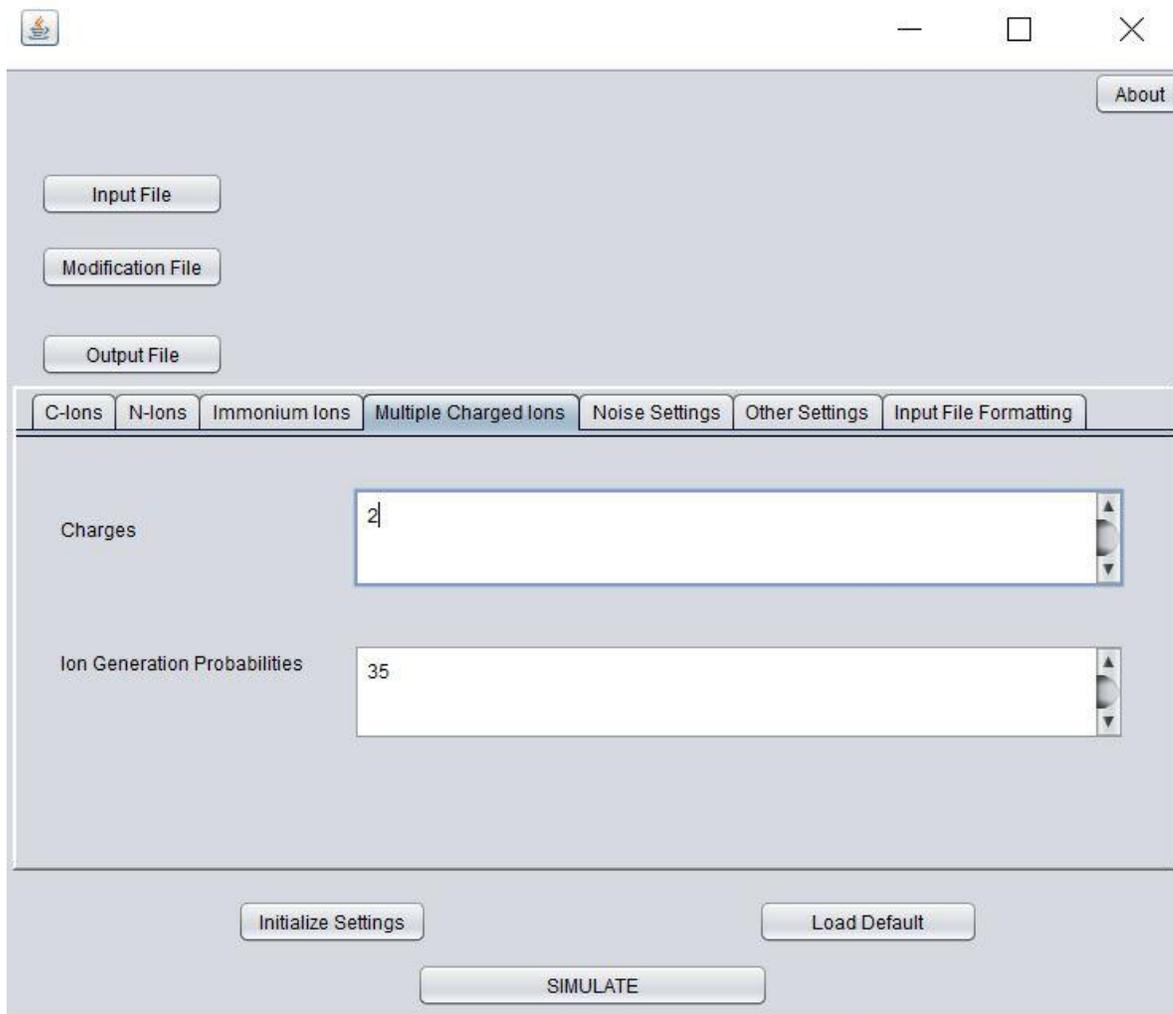

Figure 5
- For example, in Figure 5, ions with +2 charges will be generated with IGP value of 35.